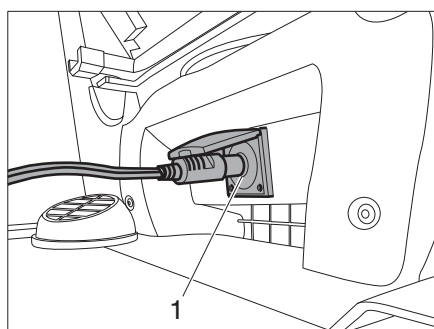

Fig. 92 12 V connection under the seat
- Plug the plug into the 12 V socket (Fig. 92,1) under the seat.